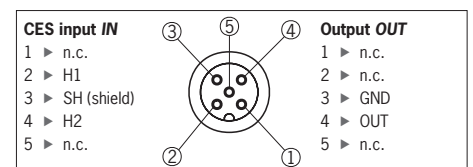

Fig. 1: Terminal assignment (view of connection side)
- ▶ Connect the CES or CEM/CET read head to the CES input *IN* (socket, 5-pin, M12) (see Fig. 1)
- ▶ Connect the solenoid of the CEM/CET read head to the output *OUT* (socket, 5-pin, M12, with sealing cap) (see Fig. 1)